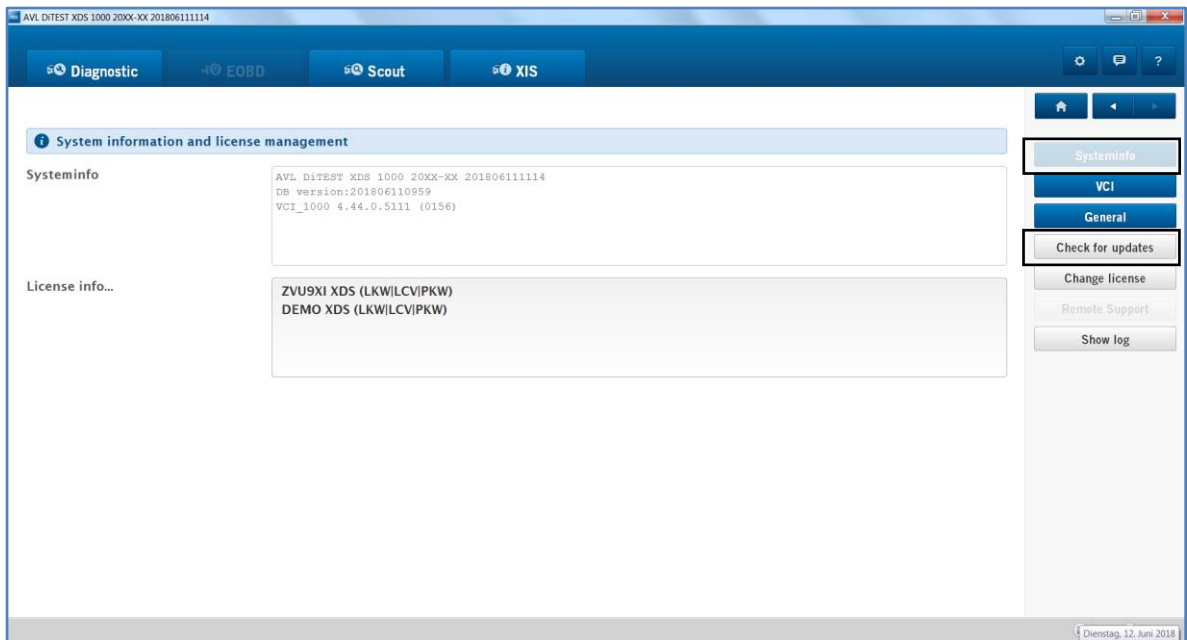

Fig. 1-1
When starting AVL DiTEST SCOUT in the "Navigation Section", see Fig. 1-1 (7), the vehicle ident data and the selected error code are automatically transferred to AVL DiTEST SCOUT.